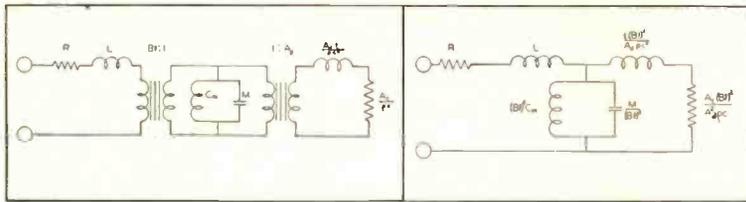
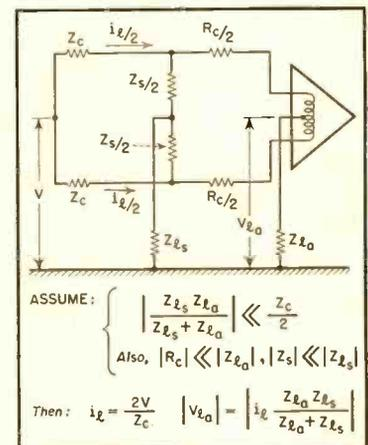

Fig. 7 (left). Equivalent circuit of the entire loudspeaker. Fig. 8 (right). Typical band-pass filter configuration.
Fig. 6. Schematic representation of a longitudinal current resulting from parasitic coupling to a power circuit.
compliance of the air chamber and the resistance of the horn throat to Fig. 6, we have the equivalent circuit of the whole loudspeaker, Fig. 7. This can be reduced to the circuit of Fig. 8, which is a standard band-pass filter, and from the design equations of this filter one finds that for optimum performance the following relations should exist:
These results are shown in the curves of Fig. 6, where (A) is the maximum power in $\frac{1}{8}$ -second intervals for male speech, and (B) represents maximum peak power in the same intervals for a 75-piece orchestra. While there is some reason to believe that higher efficiency in more modern microphones may modify these curves somewhat in the direc-
Some pre-emphasis is employed in practically all commercial recordings made today. Typical curves are shown in Fig. 7, where (A) represents the NAB curve which is generally used with transcriptions and is standard for LP records. The curve used by RCA-Victor is believed to approximate that of (B), while the London (English Decca) curve is shown at (C). Undoubtedly there are some other curves in use, but these shown are commonly employed. If a phonograph amplifier is equipped with means to provide "rolloff" curves which are complementary to these re-
Fig. 6 (left). Curves showing maximum probable power in $\frac{1}{8}$ -second intervals in male speech (A), and in a 75-piece orchestra (B). Fig. 7 (right). Typical pre-emphasis curves: (A) NAB and LP; (B) presumed curve for RCA Victor; and (C) London ffr.
The schematic representation of noise resulting from a longitudinal noise current is shown in Fig. 6. The longitudinal impedances of the input circuit to ground are assumed to be negligible in comparison with the magnitude of the coupling impedance Z_c between the power circuit and the input circuit of the amplifier. Consider the case in which the metallic-circuit impedances are negligible compared with the magnitude of the longitudinal impedances to ground of the input circuit. The longitudinal noise current entering the circuit is then $i_l = 2V/V_c$. Under these conditions, the longitudinal voltage to ground of the input circuit of the amplifier is